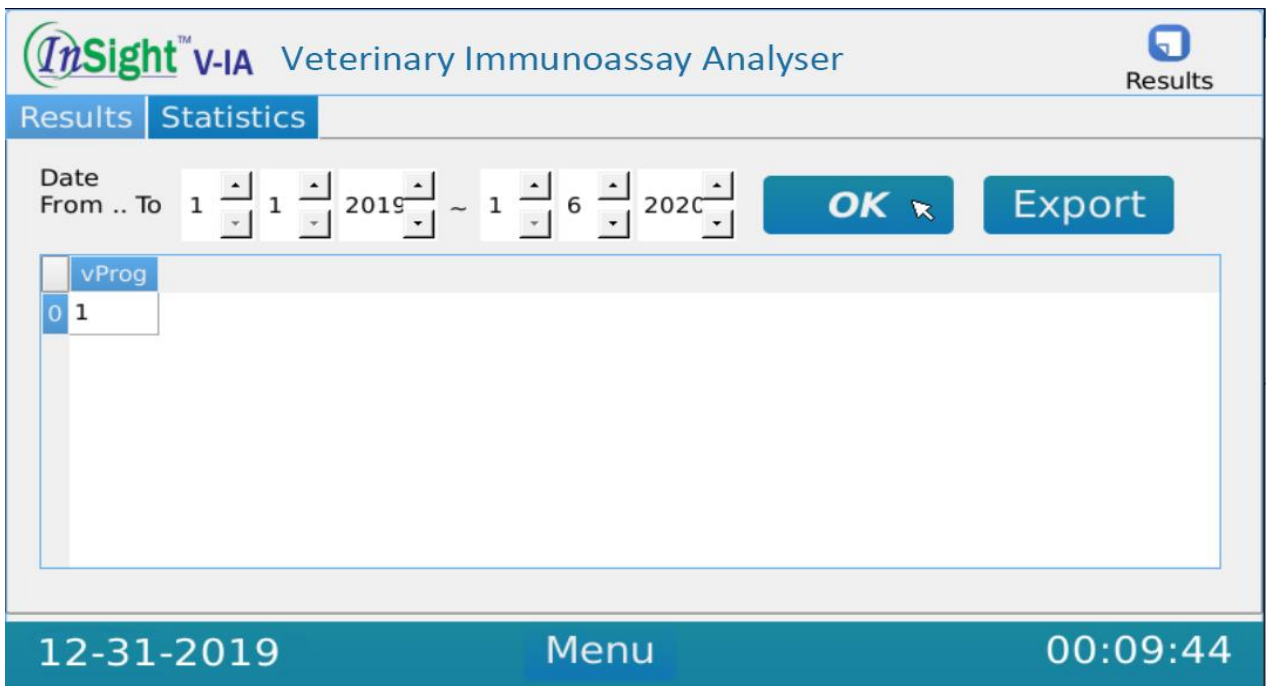

Figure 4.4.2
7. Select [Statistics] in Figure 4.4.2. After selecting a date range, select [OK] to view the statistics of how many tests have run within the selected timeframe.